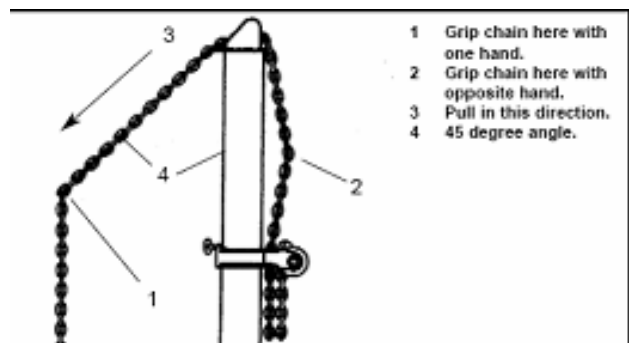

Figure 17
1. To adjust slack tower chain, grip chain on each side of tower. Lift out on tail of chain until it is approximately 45 degrees from tower. Then disengage chain from tower head and pull chain to either increase or decrease amount of slack. (see figure 17)